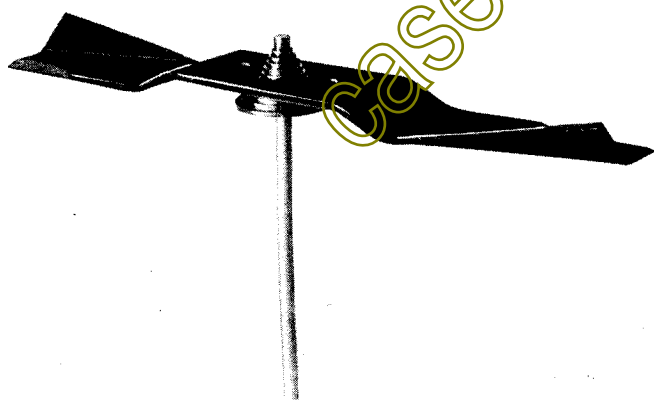

FIGURE 8
11. Make sure the belt is correctly located on each pulley. See Figure 8.